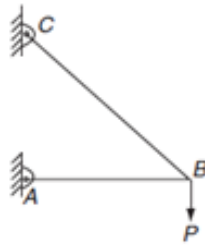

Figure 4 Question 6.
6. Bars AB and BC, each of negligible mass, support load P as shown in Figure 4. In this arrangement,